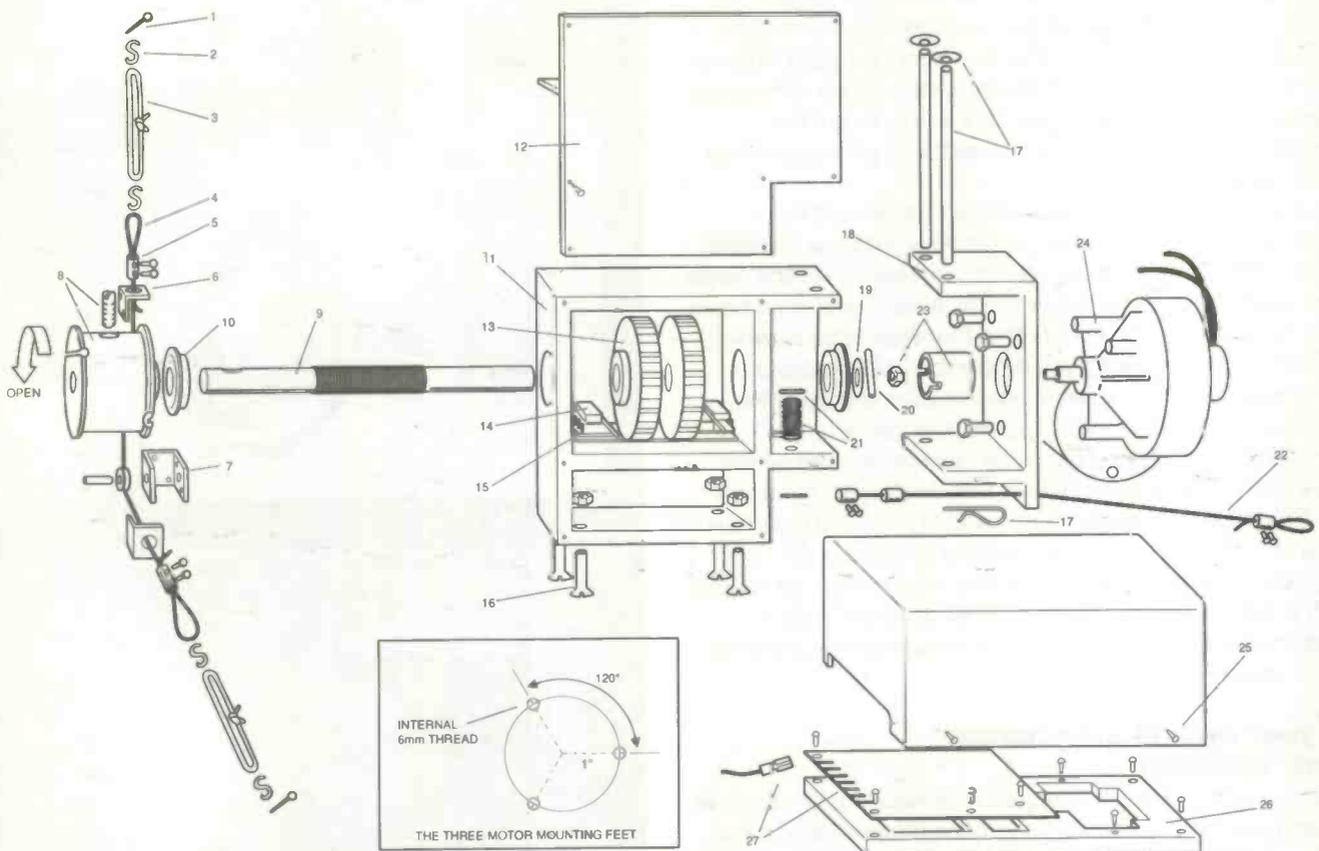

Fig 1. Exploded diagram of a Rador
would mention that I have patented Raydor and its Felectronics so if there are any companies out there interested in commercialising it, please contact me. Meanwhile, any reader who would like to make one or two on a non-commercial basis may derive satisfaction from putting their skills to good use and saving money, more still if you supply your own windscreen wiper motor which provides the motive force and by far the most expensive component. Such motors can often be purchased second-hand from a car breaker for a few pounds. For those who lack the workshop facilities to make the rest of the Raydor units, I have produced a kit of parts and units listed in table 1, together with prices inclusive of carriage. An exploded diagram of Raydor is shown in fig.1 which will be dealt with in more detail later. Some of these parts are made in urethane plastic and produced from moulds used to make my latest prototypes.
2. How Raydor works (See Figs. 1 and 2)
Door opening time is about 10 - 12 seconds. Triggering Raydor by pressing the push switch in the garage or the radio transmitter (Tx) button, rotates the motor clockwise (as viewed from its motor). Initially, spring chord SC2 stretches until pinchblock PB2 abuts endstop 2 and simultaneously SC1 relaxes. This movement occurs within the first fraction of a second after which the door is pulled open along its tracks as the drum winds on to cable 2 and winds off cable 1. Meanwhile two disc nuts, DN1 and 2 (fig.1), both prevented from rotating by a projection on the lid, move axially along the motor/drum shaft (toward the motor) until, when the door is fully open, DN2